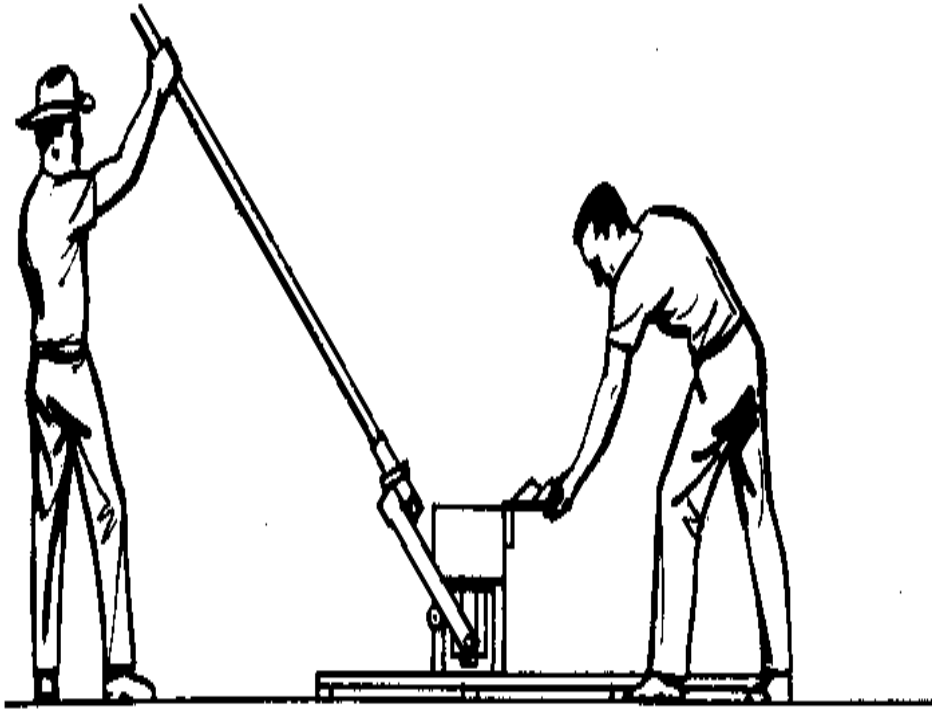

Fig. 11 - Returning the Lever to Rest Position and Opening the Mold Box.
(10) Move the lever to a vertical position, engage the lever latch and return the lever to its rest position on the lower rollers.
(11) Open the cover (see Fig. 11).